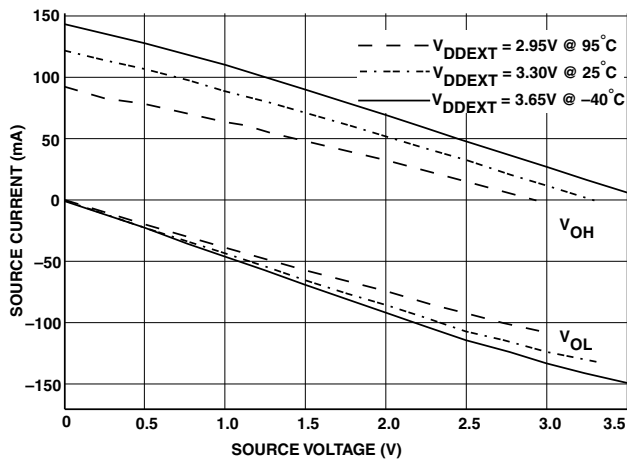
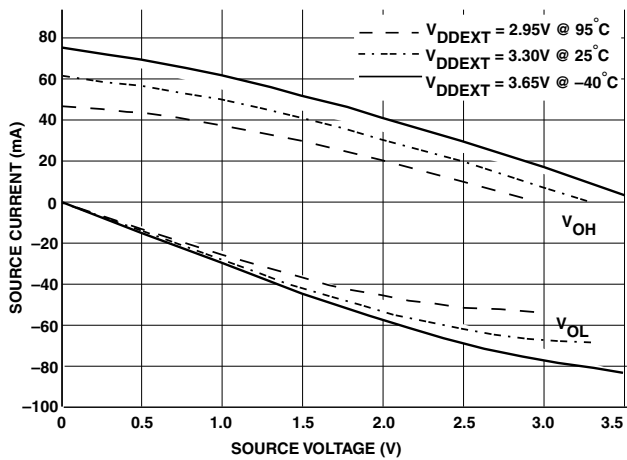

Figure 24. Drive Current A (High  $V_{DDEXT}$ )
Figure 28. Drive Current C (High  $V_{DDEXT}$ )
Figure 24 through Figure 28 show typical current-voltage characteristics for the output drivers of the ADSP-BF533 (HS) processor. The curves represent the current drive capability of the output drivers as a function of output voltage.